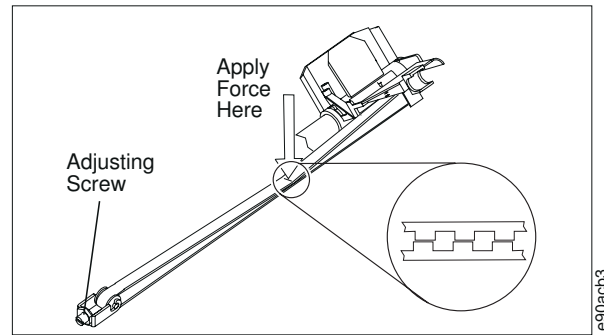

Figure 21. Carriage Belt. (Viewed From Top) - Teeth must align during measurement.
1. Power off (O) the printer.
4. Using a push-pull scale (such as P/N 44D9056) to check the belt tension, apply pressure to the upper half of the belt (at a point midway between the printhead and the left side frame) until it begins to touch the bottom half of the belt. To accurately measure the tension, it is critical for the raised surfaces of the teeth to align, as shown in Figure 21.